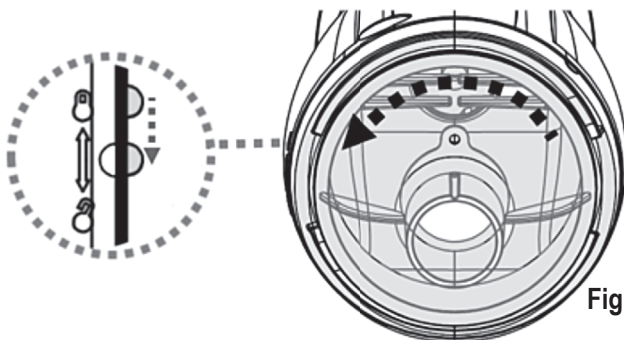

Fig.1
- 2) Hold the electric vacuum body and turn the canopy anticlockwise until the white marking on the canopy reaches the lock-unlock marking. (Fig.1) Detach the canopy and remove the filter bag / filter cage from the electric vacuum.